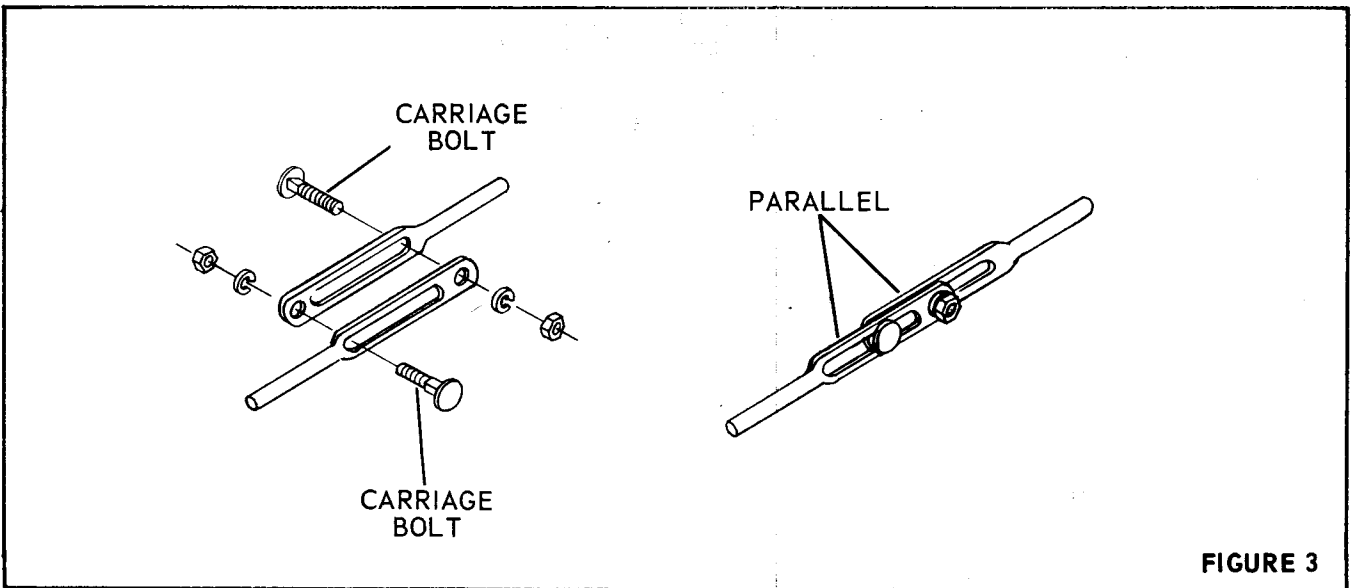

FIGURE 3
4. Connect the shifter rod to the shifter rod end using the 1/4" carriage bolts, lock-washers, and hex nuts; making certain the head of the bolts are on the slotted sides of the rods. (Fig. 3.) Slide the two rods apart in opposite directions as far as they will go. Be certain the edges of the two rods are parallel and tighten securely.